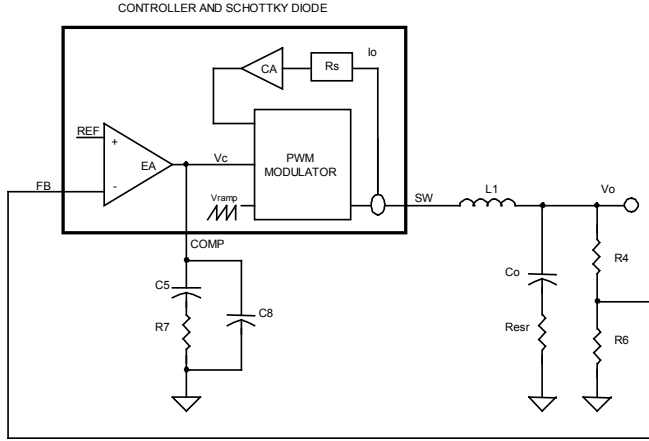

Figure 7. Block diagram of control loops
The block diagram in Figure 7 shows the control loops of a buck converter with the SC4525A. The inner loop (current loop) consists of a current sensing resistor ($R_s=4.1m\Omega$) and a current amplifier (CA) with gain ($G_{CA}=28$). The outer loop (voltage loop) consists of an error amplifier (EA), a PWM modulator, and a LC filter.
For a converter with switching frequency F_{SW} , output inductance L_1 , output capacitance C_0 and loading R, the control (V_c) to output (V_o) transfer function in Figure 7 is given by: